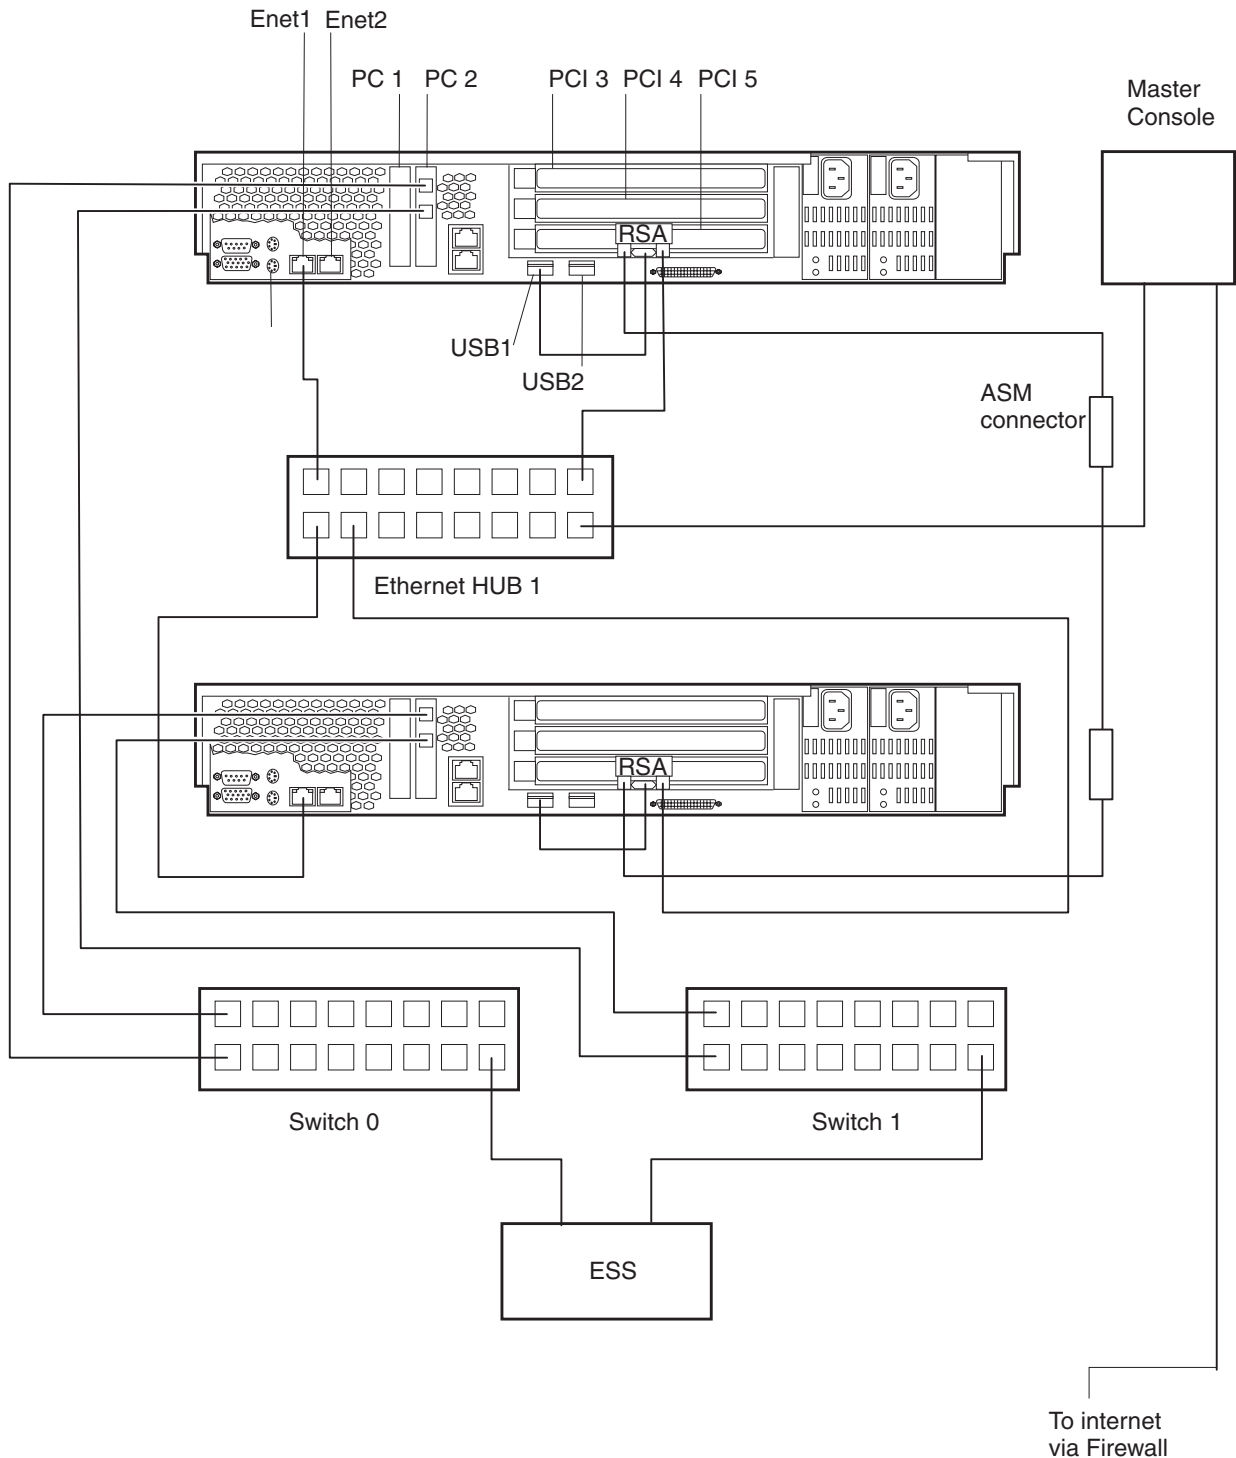

Figure 6. Two-node, two-switch, two-hub cabling example
2. Connect one end of the two Fibre Channel cables to the HBA ports located in expansion slot 2, and connect the opposite end of each cable to the SAN through a switch. See Figure 6 on page 40 for a cabling example.
4. Connect one end of the Ethernet cable to the integrated 10/100/1000 Ethernet port in the engine, and connect the opposite end to the Ethernet switch or hub. The example in Figure 6 on page 40, shows a hub.
- b. With an RJ-45 cable, connect one Ethernet connector on the RSA card to the Ethernet switch or hub that is provided as shown in Figure 6 on page 40.
2. Connect the other Ethernet adapter port to the customer's intranet. This network includes the RSA II adapters, Metadata server, and SAN File System clients. The example Figure 6 on page 40 shows an Ethernet hub.